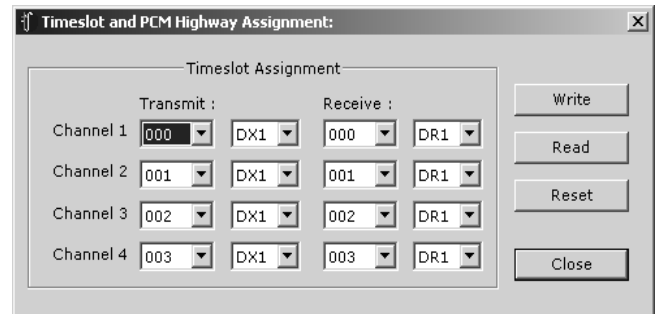

FIGURE 10. TIMESLOT & PCM HIGHWAY ASSIGNMENTS
This test will demonstrate an end to end phone conversation between Channel 1 and Channel 2. Setting up an end to end phone conversation is accomplished with the Timeslot and PCM Highway Assignment screen (Figure 10). The user can select any time slot for Channels transmit and receive. If the time slot assigned to the receive path of Channel X is the same one assigned to the transmit path of Channel Y, and the time slot assigned to the transmit path of Channel X is the same one assigned to the receive path of Channel Y, then Channel X and Channel Y can communicate with each other.
4. From GCI Software screen, in the GCI General Setting section, select Linear mode. This will enable you to select Time Slot. Click on the Time Slot button. The Time slot and PCM Highway Assignment screen will appear (Figure 10).